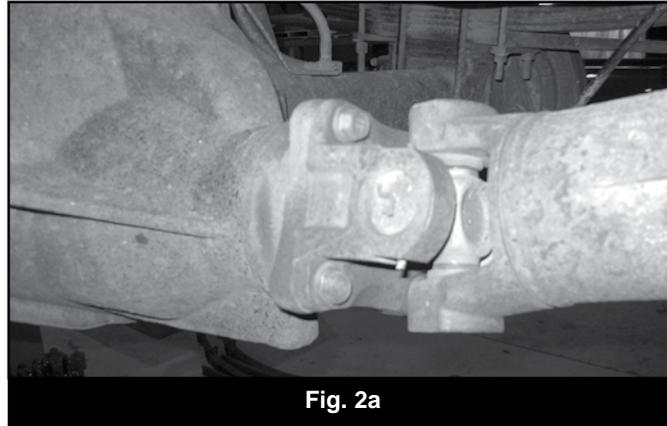

Fig. 2a
6. Remove the rear driveshaft from the vehicle. Mark the driveshaft at the axle so that it can be reinstalled in the same manner it was removed. It will take 2 people to hold the weight of the driveshaft (it's heavy), remove carrier bearing hardware if equipped. (Fig 2a, 2b)